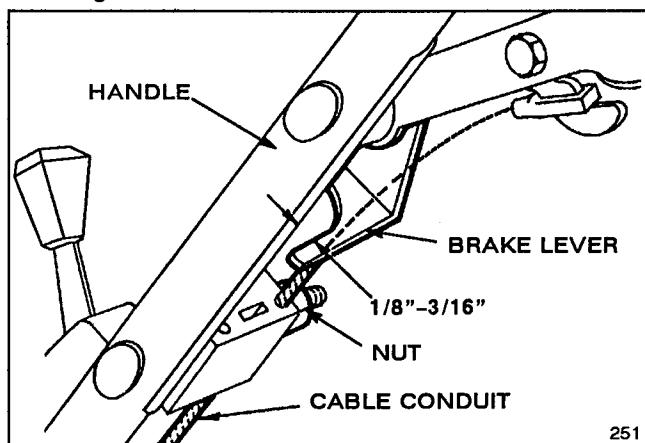

Figure 22
2. CHECK ADJUSTMENT (Fig. 22)—Move control bar toward handle until slack in wire is removed. Gap between brake lever and handle must be  $1/8" - 3/16"$ . See step 3 for adjustment.
3. ADJUST CABLE CONDUIT (Fig. 22)—Loosen nut on cable bracket. Insert  $1/8" - 3/16"$  object between brake lever and handle. Pull down on cable conduit until all slack is removed from wire. Then tighten nut.